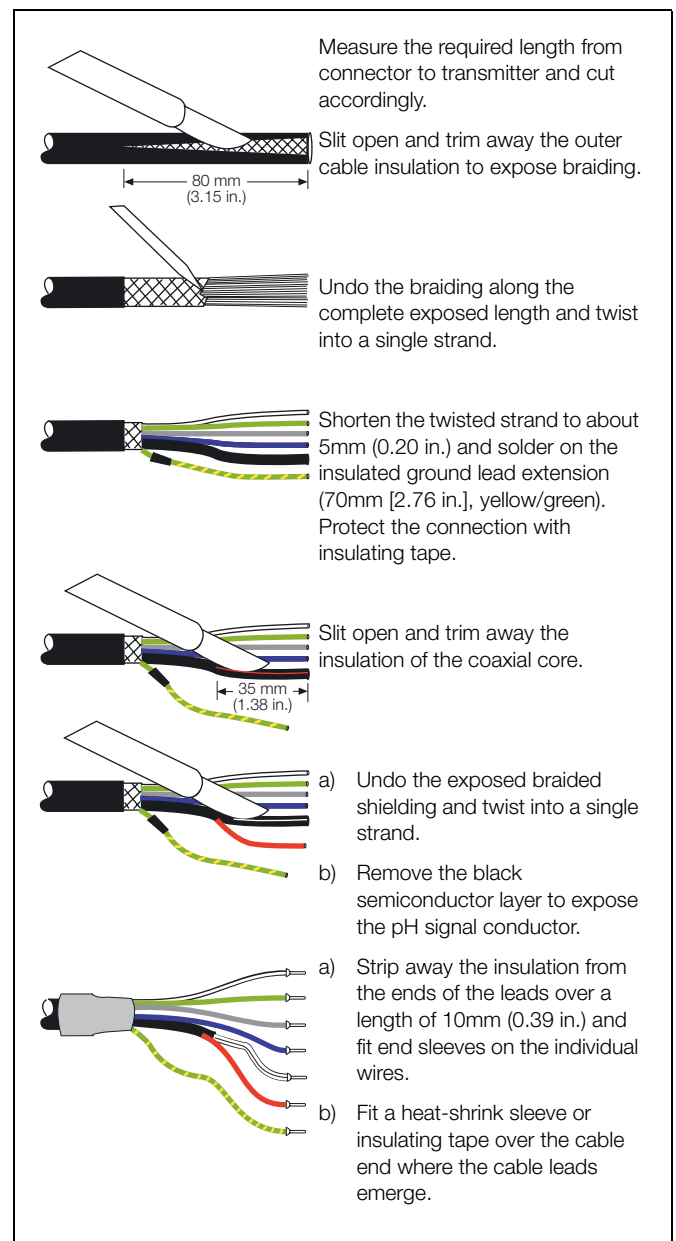

Fig. 3.2 Shortening the Connection Cable
#### 3.2 Shortening the Connection Cable – Fig. 3.2
The connection cable is supplied in various standard lengths. If it is necessary to shorten the cable, prepare the cable ends as shown in Fig. 3.2.
- Cable AA101/0XX is identical to that fitted to the sensor. See Fig. 3.2 for cable end preparation instructions.